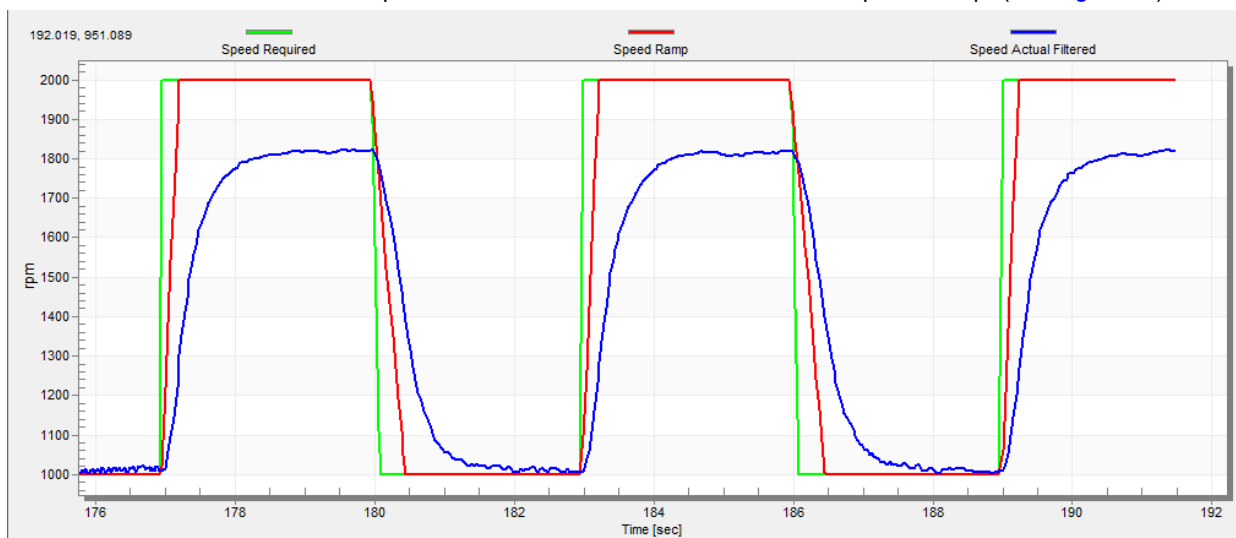

Figure 34. Speed controller response—SL_Ki value is low, Speed Ramp is not achieved
The motor speed control loop is a first-order function with a mechanical time constant that depends on the motor inertia and friction. If the mechanical constant is available, the PI controller constants can be tuned using the loop bandwidth and attenuation. Otherwise, the manual tuning of the P and I portions of the speed controllers is available to obtain the required speed response (see the example response in Figure 34). There are dozens of approaches to tune the PI controller constants. The following steps provide an approach to set and tune the speed PI controller for a PM synchronous motor:
- The “SL_Ki” value is low and the “Speed Actual Filtered” does not achieve the “Speed Ramp” (see Figure 34).